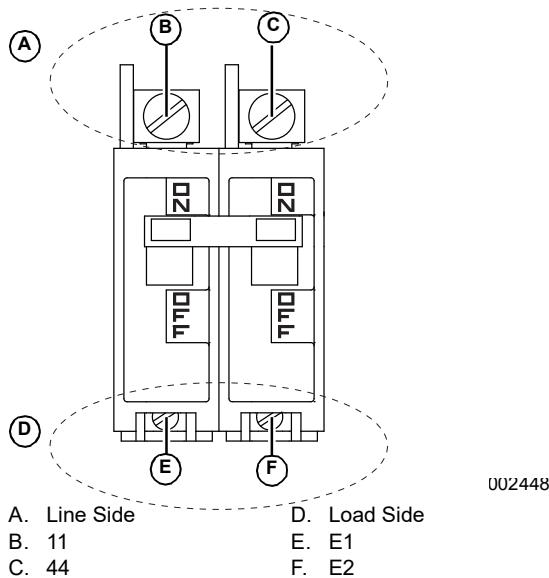

Figure 2-6. Main Line Circuit Breaker
3. See **Figure 2-6**. Connect one meter test lead to the Wire 11 terminal on the breaker and the other test lead to the E1 terminal.